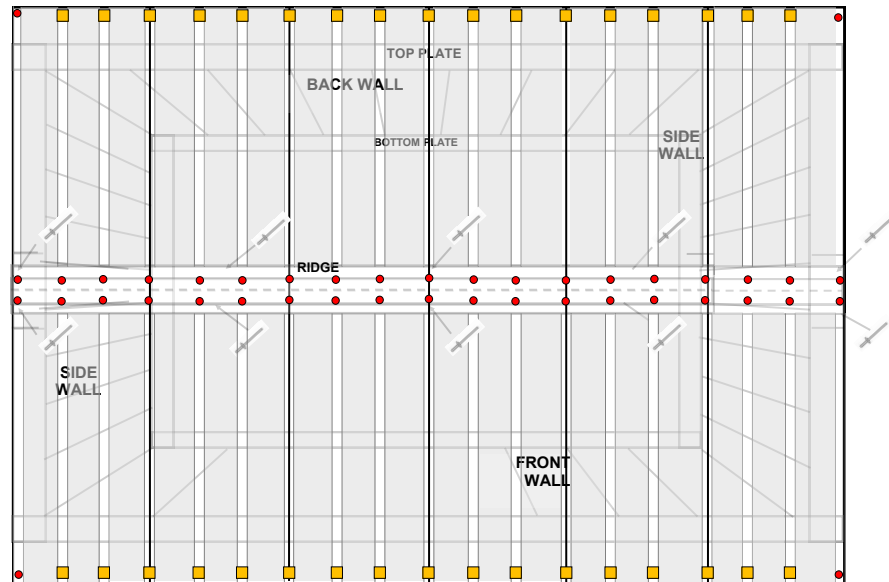

fig.2
Use the 50mm Clouts only on ribs covered by flashings, shown on pg 13 fig.2
- Secure with 2 x 75mm screws through the top of the Jack Studs into the Timber Top Plate (**fig. 2**).
- Rivet the 2 ridge flashings together using 4 rivets, so total flashing is 3.050m long. Rivet the Ridge Flashing to the centre of the roof using 10 x rivets as shown (fig.2).